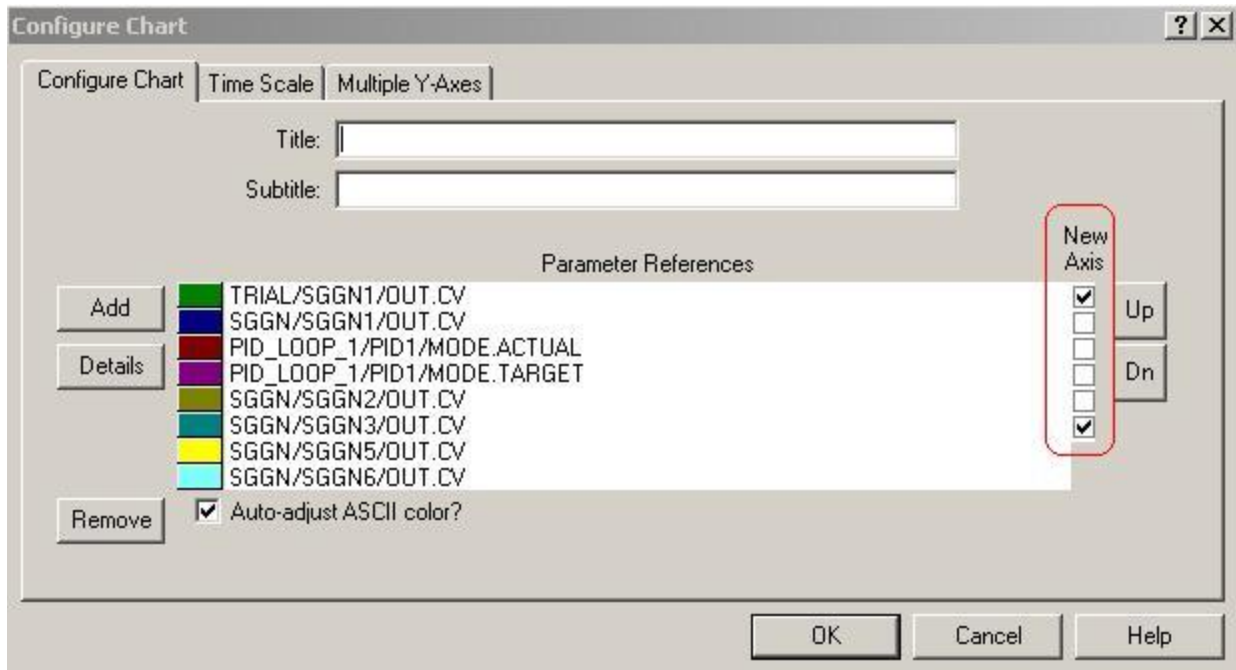

Figure 2 – Only 6 “New Axis” can be defined for the 8 pens
- D. Pens 6, 7, and 8 effectively "share" some common settings, usually based on the highest-numbered pen that is enabled. These common settings include Plot Method and Y-Axis. The Plot Method determines the style of the trend and is inferred based on the data type of the parameter being trended. The following plot methods are available from **Trend | Plot Method**: line, step, area, points and line with points. The Configure Chart tab in the Configure Chart dialog box has only 6 boxes for "New Axis" (see Figure 2) as Pens 6, 7 and 8 all use the same axis. It is recommended that the parameter fields using pens 6, 7, and 8 are all of the same data type and have the same Y-Axis range.
- E. Do not trend ASCII data on pens 6, 7, or 8. To identify if a tag in the Process History View chart is an ASCII type, select **Chart | Configure Chart** and double-click the tag in question. The Configure Trend window will be displayed. The tag properties will indicate the data type used in the chart, as shown in Figure 2. Click OK to close this window.